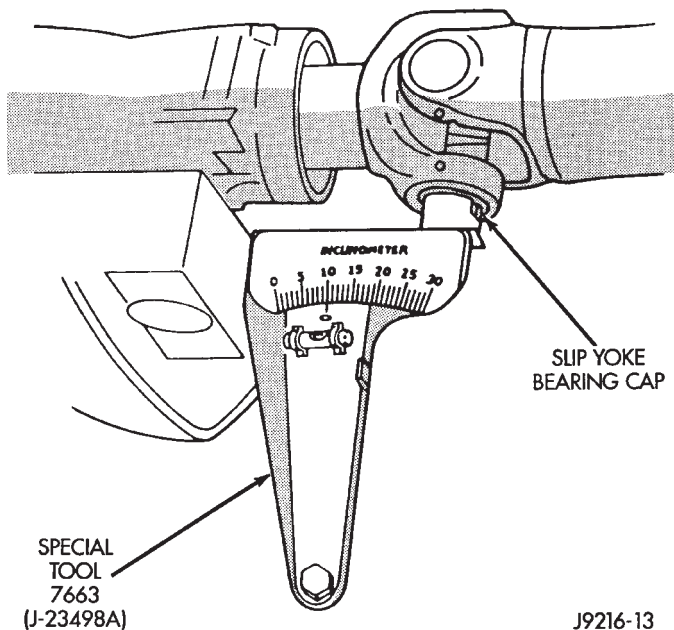

Fig. 9 Front (Output) Angle Measurement (A)
(2) Place Inclinator on yoke bearing cap, or the pinion flange ring, (A) parallel to the shaft (Fig. 9). Center bubble in sight glass and record measurement.